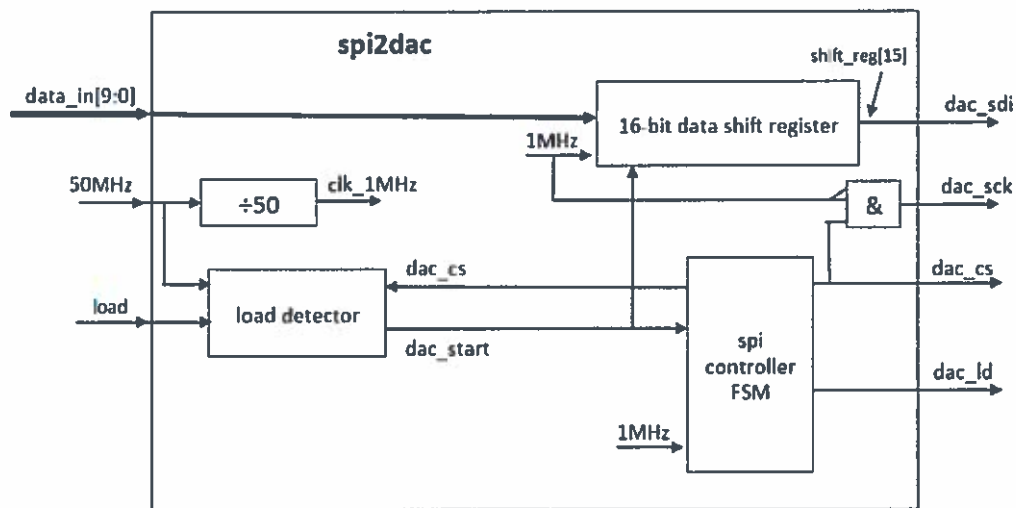

Figure 3.1
3. *Figure 3.1* shows the top-level schematic of the serial peripheral interface SPI used in the laboratory experiment to interface between the Cyclone III FPGA board and the digital to analogue converter.